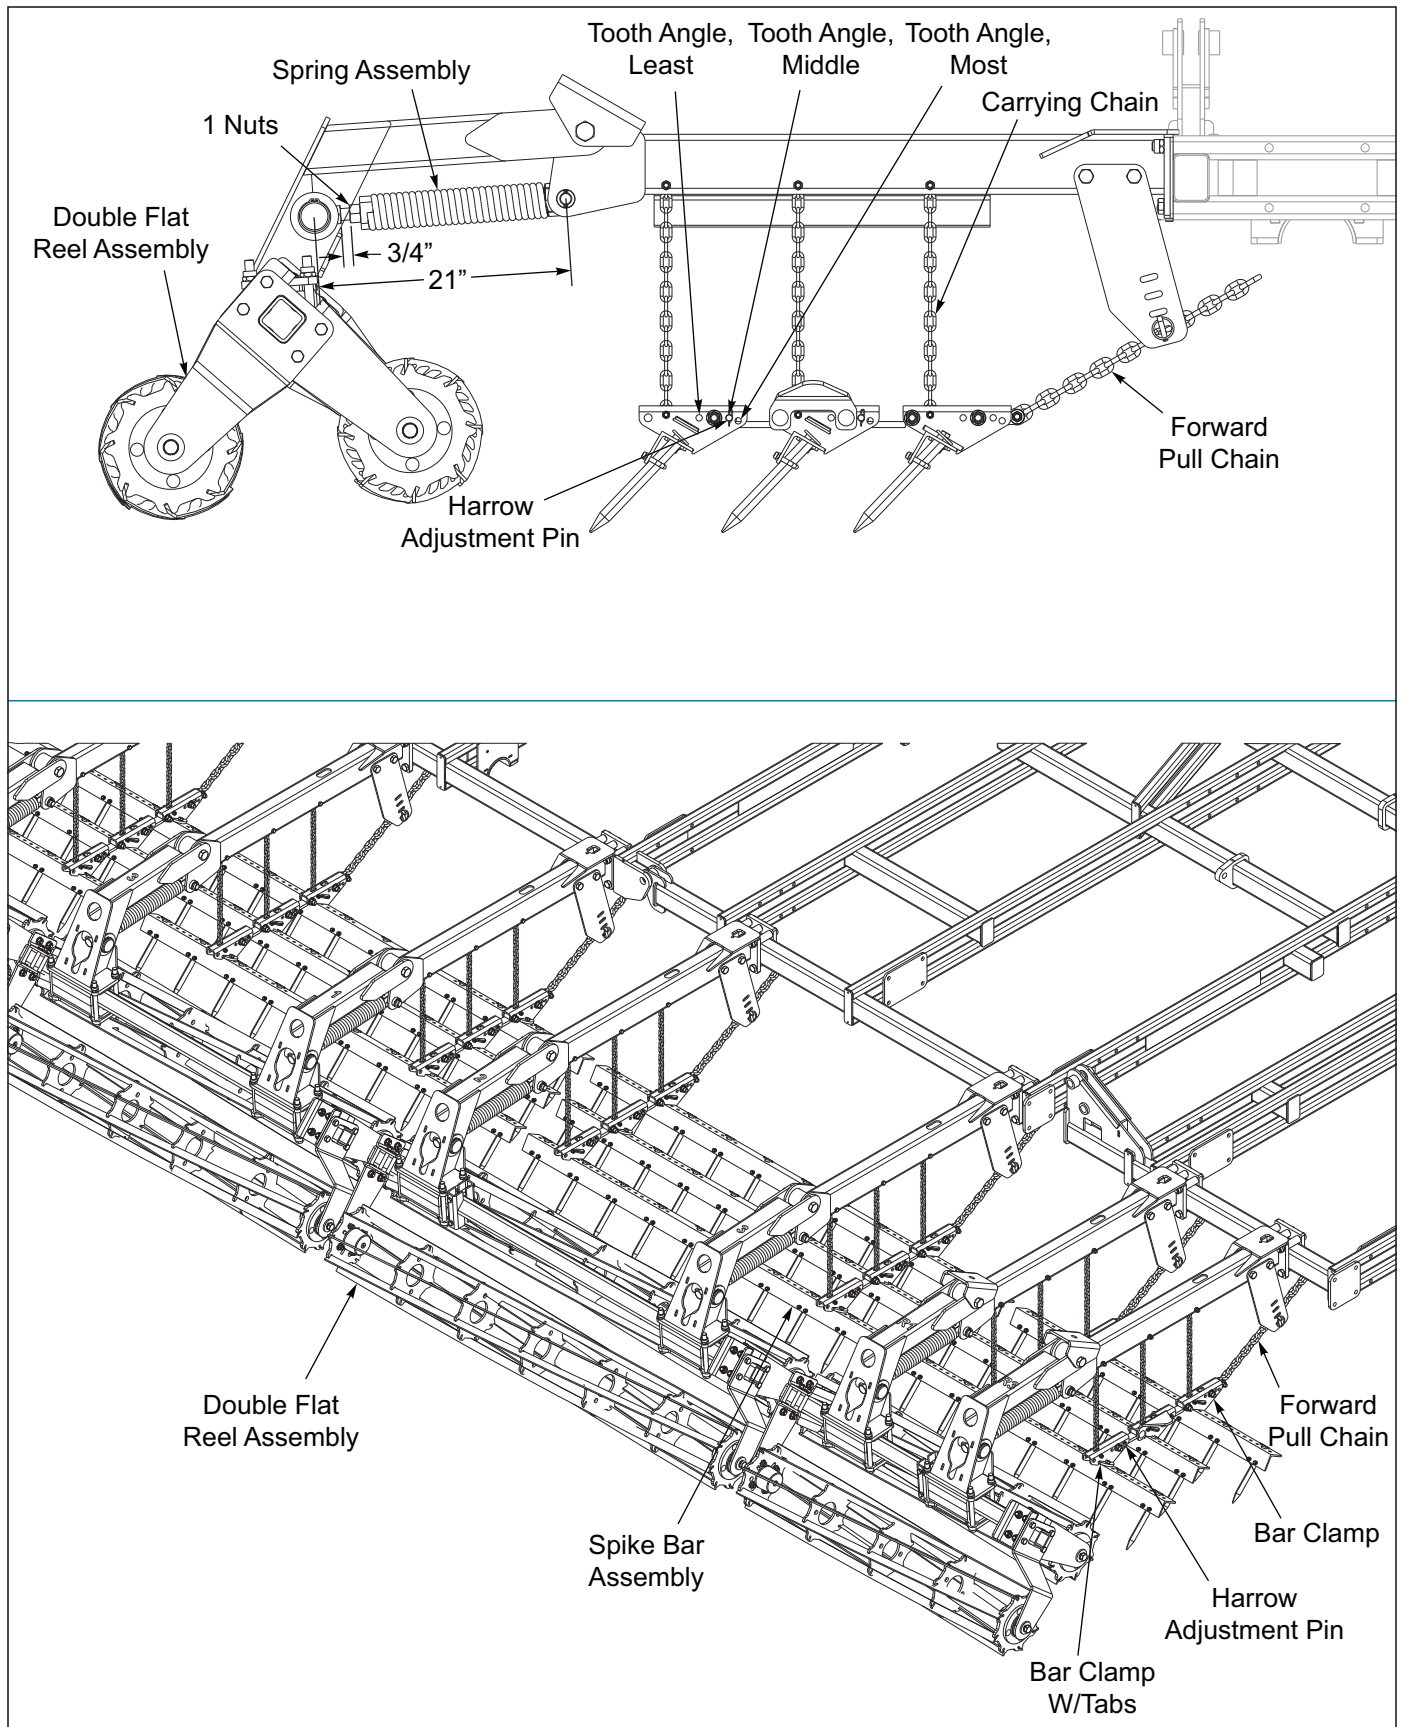

Figure 4-15: 3RS DBL Flat Reel Adjustments
- For the most aggressive spike tooth action, install the harrow adjustment pin in the forward mounting hole over each bar clamp for each spike bar **See Figure 4-15**. This will position the spike teeth to be in the most vertical position. In wetter or conditions with some residue, lower the spike tooth angle by positioning the harrow adjustment pin in the middle or rear hole. This will allow the teeth to lay flatter and shed more residue.